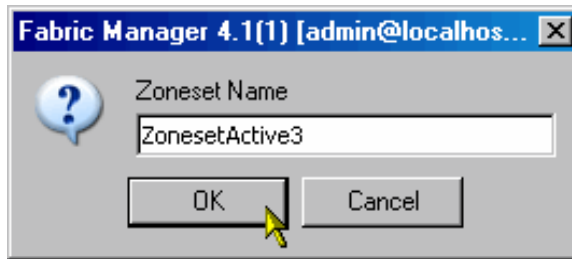

Figure 6-65 Name the zoneset
2. Define the name for the new zoneset and click **OK**, as shown in Figure 6-65.